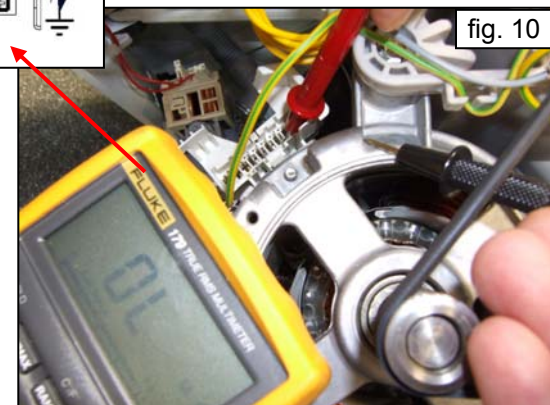

fig. 10
- 3) Check for windings or other parts that may be grounded or poorly insulated. Use a tester with a minimum scale of 40 MΩ: between each terminal and the casing, this should read ∞ (**fig. 10**).